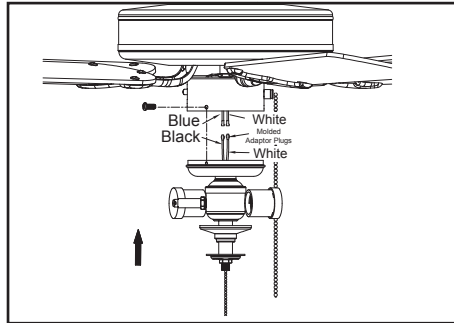

Figure 13
1. Remove and retain the three mounting screws from the switch housing cover of the light kit fitter assembly (Figure 13).
3. Remove and retain the three mounting screws from the switch housing cover of the light kit fitter assembly (Figure 13).